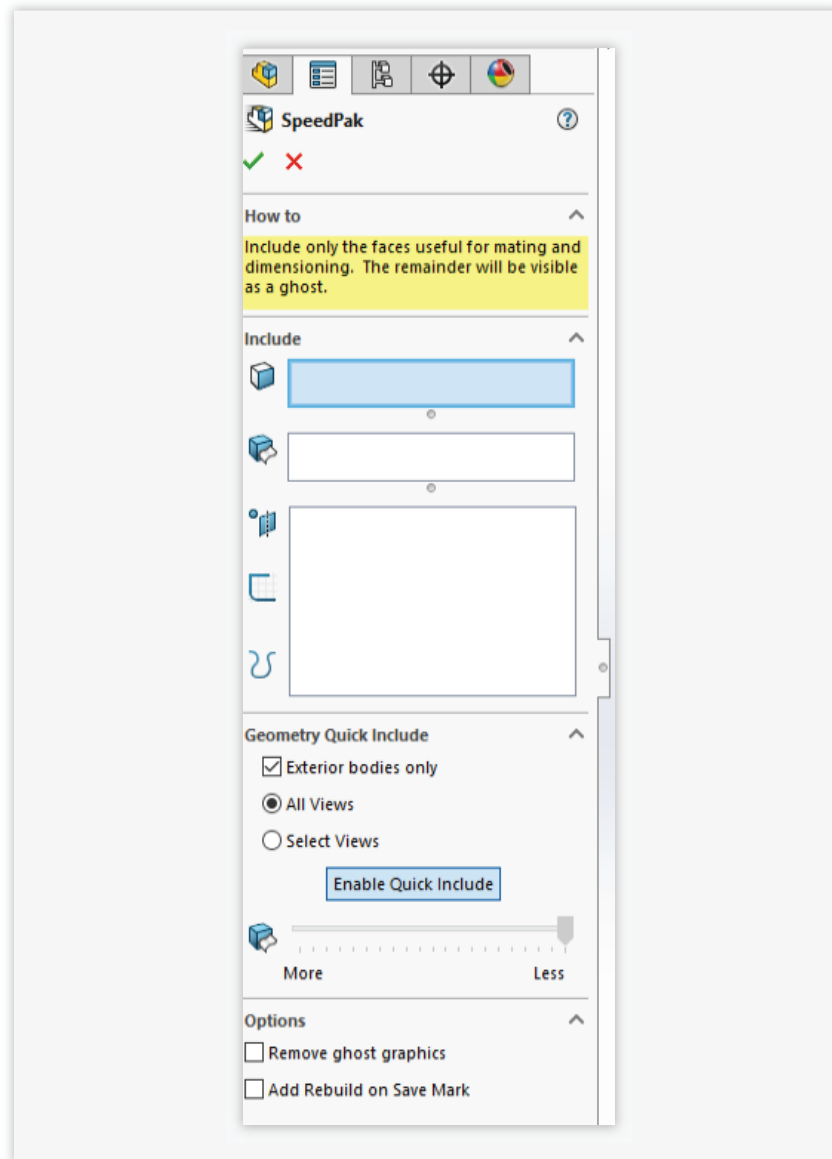

Fig. 18
2. Highlight the **Default** configuration, right click, and select **Add SpeedPak**. See Fig. 18.